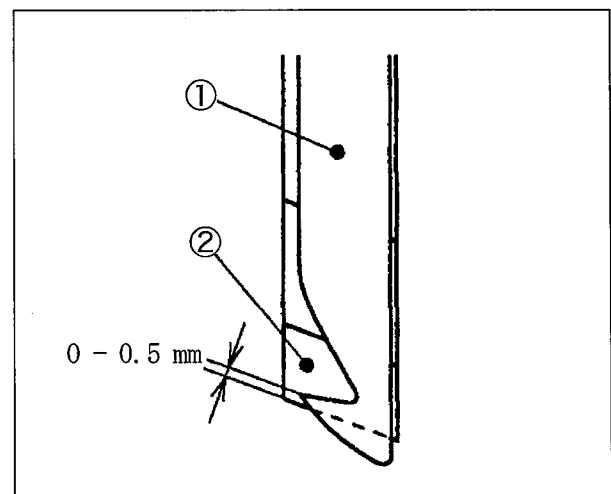

Fig. 37
The engagement between the movable trimming knife ① and the fixed trimming knife ② has been adjusted as shown in Fig. 37.